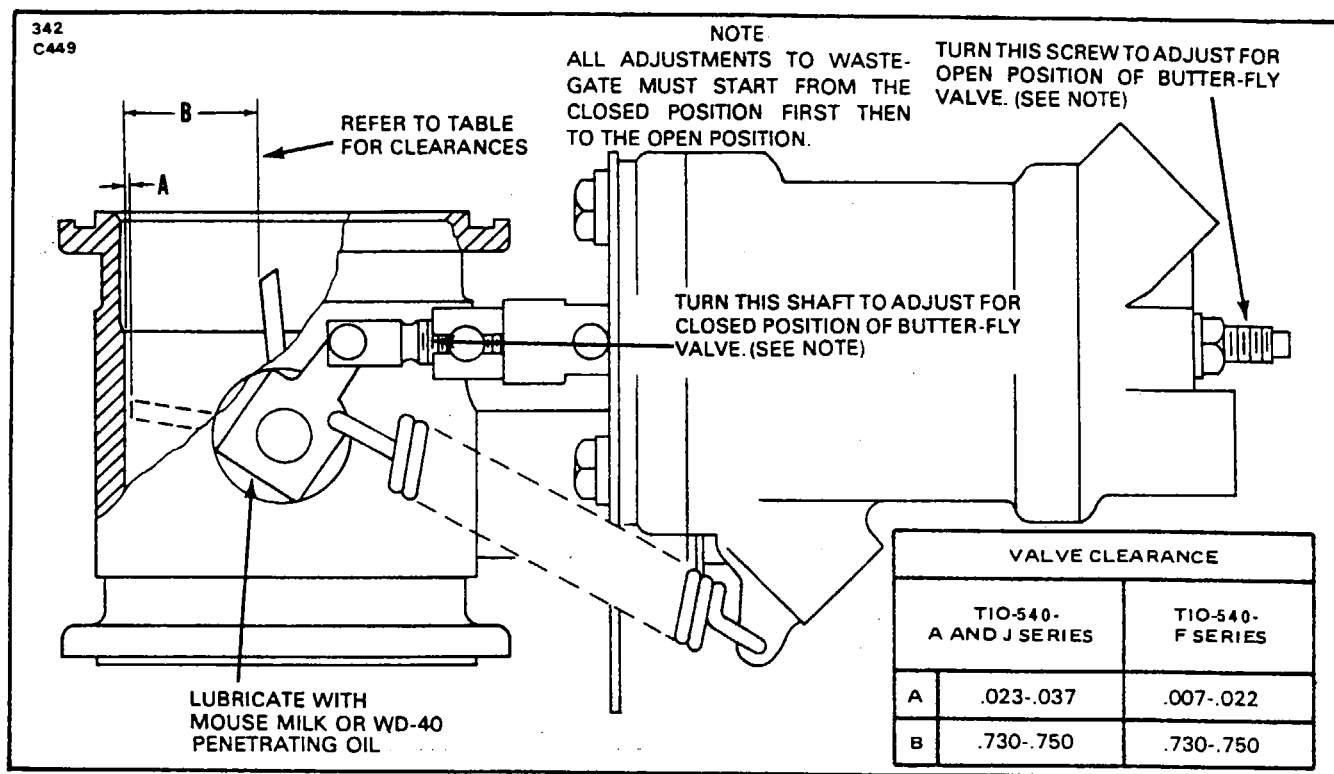

Figure 8-7b. Exhaust Waste Gate
8-33l. EXHAUST WASTEGATE VALVE SETTINGS. (Refer to Figure 8-7b.)
The butterfly valve in the exhaust wastegate assembly is set to a predetermined open and closed clearance. A table of these clearances is given in Figure 8-7b for the specific engine being worked on. With 50-60 psi pressure in the wastegate cylinder adjust the closed position (A) of the valve so that clearance between the butterfly and side of housing is in accordance with specifications given in Figure 8-7b. After adjusting the closed position and with no pressure in the wastegate cylinder, adjust the full open (B) position by adjusting the stop screw to provide the specified clearance between the valve and the side of the housing with backlash taken up towards the open position.